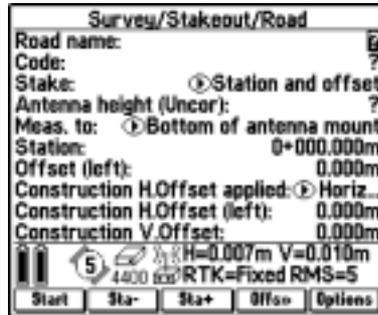

Figure 18.2 Survey/Stakeout/Road screen
3. Select *Roads*. The *Survey / Stakeout / Road* screen appears, as shown in Figure 18.2.